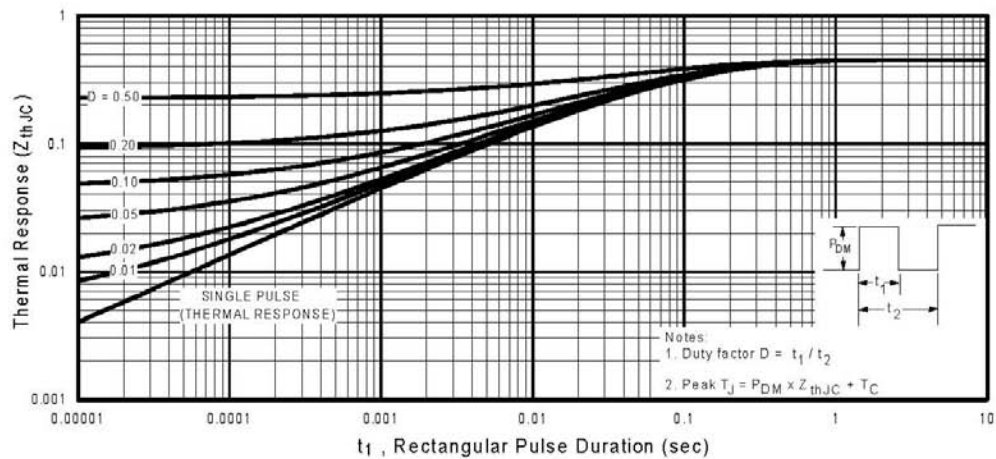

Fig 11. Maximum Effective Transient Thermal Impedance, Junction-to-Case
① Repetitive rating; pulse width limited by max. junction temperature. (See fig. 11)
③ $I_{SD} \leq 16A$, $di/dt \leq 140A/\mu s$, $V_{DD} \leq V_{(BR)DSS}$, $T_J \leq 150^\circ\text{C}$